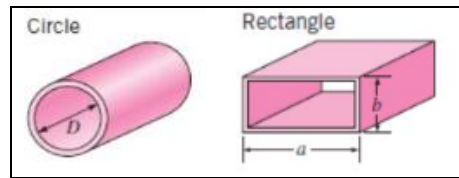

Fig.4 Circular and Rectangular (Non-Circular) pipes
4.1 Determine the coefficient of Darcy's friction factor under partial, half, Three-fourths and fully opening flow conditions for circular pipeline. The testing apparatus is illustrated in Fig. 4.